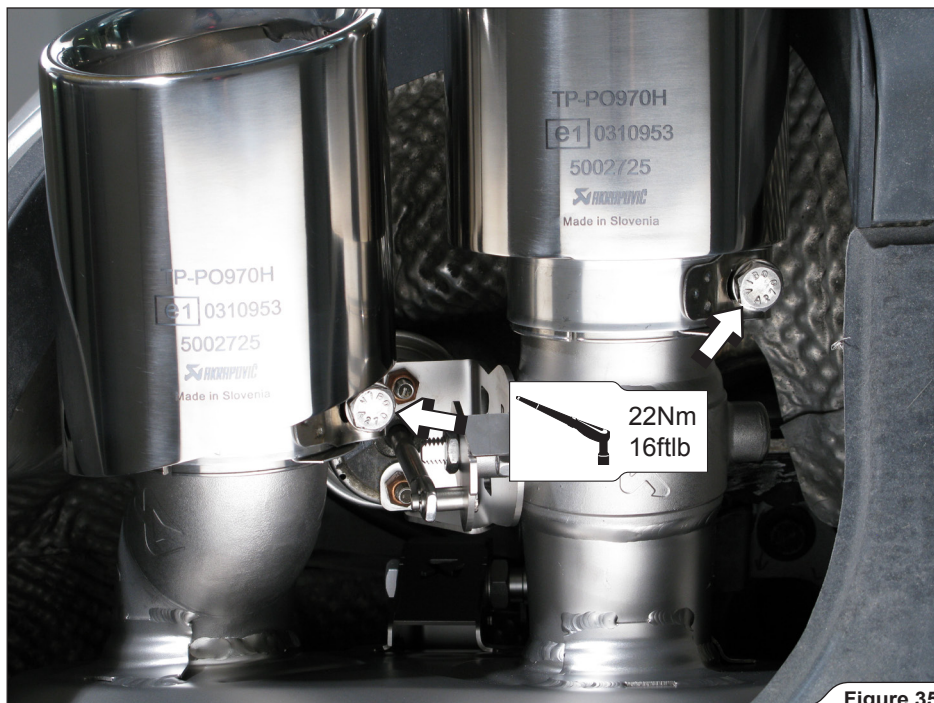
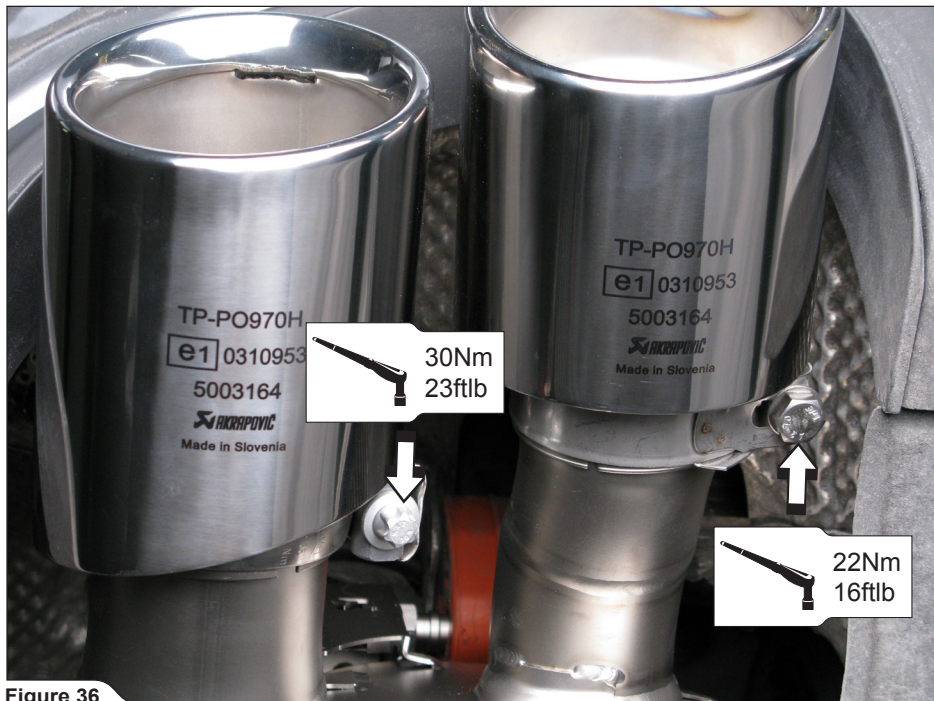

Figure 35
Figure 36
19. **For all vehicle models:** tighten Tail Pipe clamps to a specified torque on both sides of the vehicle (**Evolution EC type approved: Figure 35; Evolution: Figure 36**).